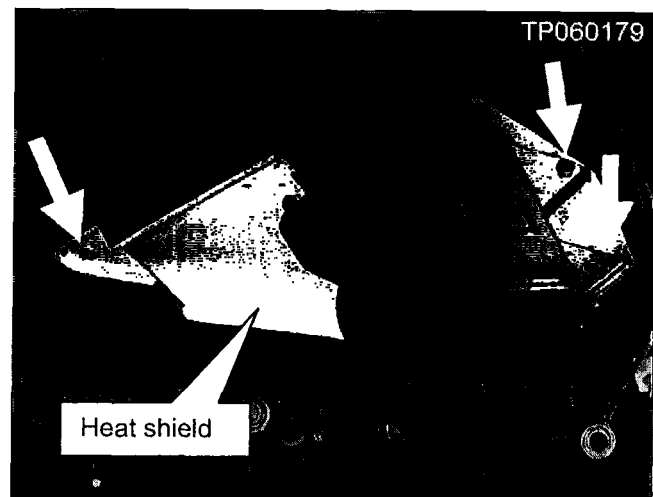

Figure 14
2. Remove the heat shield bolts shown in Figure 14 and remove the heat shield.